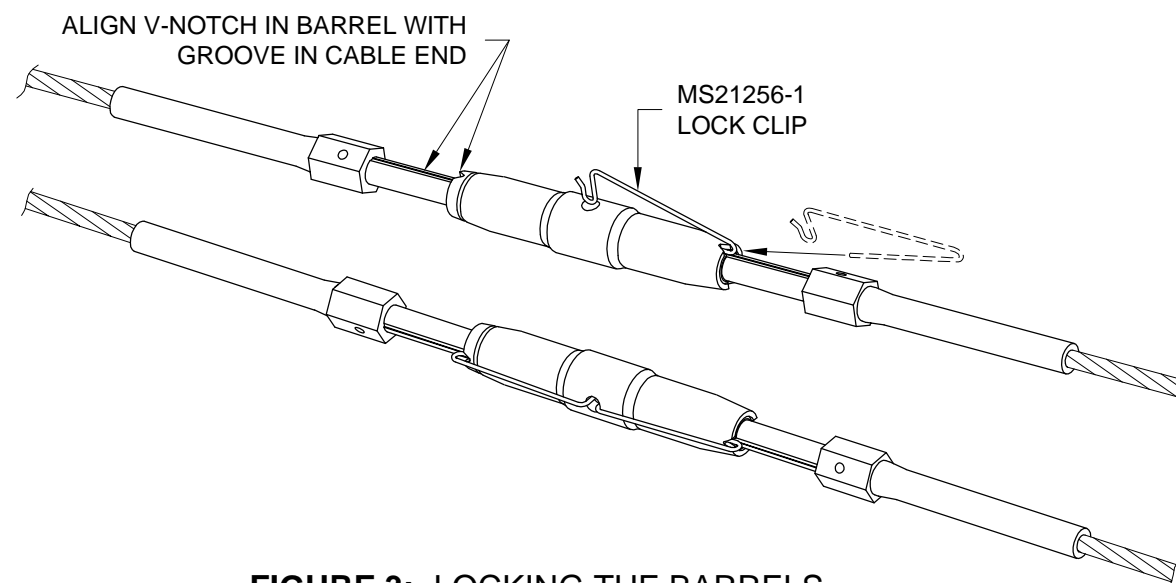

FIGURE 3: LOCKING THE BARRELS
Step 8: Once the proper tension is achieved, and no more than three threads are exposed from the ends of the barrels, align the V-notch in the ends of the barrel with the groove in the cable ends and then insert the lock clips as shown in Figure 3. The hook end of the lock clips are inserted into the hole in the center of the barrel and must be completely pressed in until the hook springs open inside the barrel.